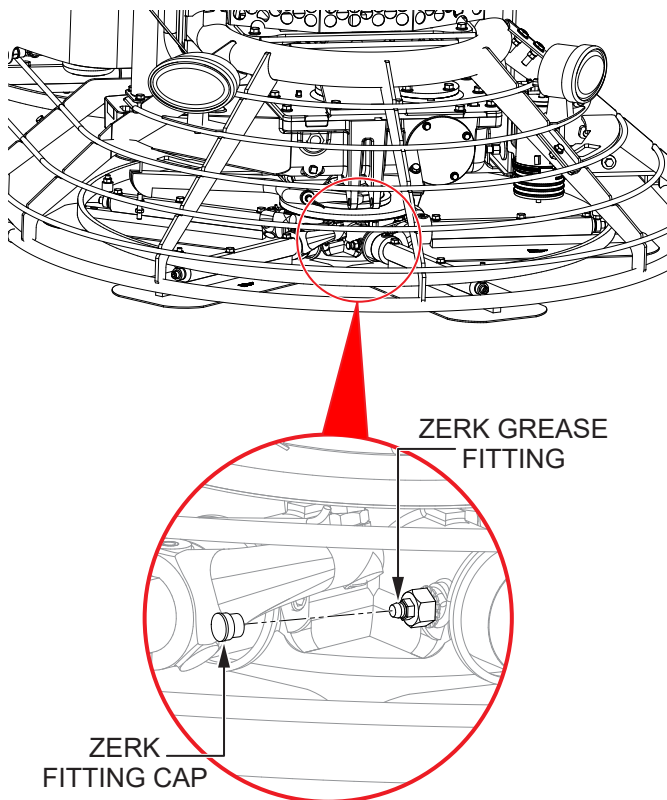

Figure 36. Spider Lubrication
1. Locate one of the Zerk grease fittings on either spider assembly (Figure 36). Remove the Zerk fitting cap and set it aside.